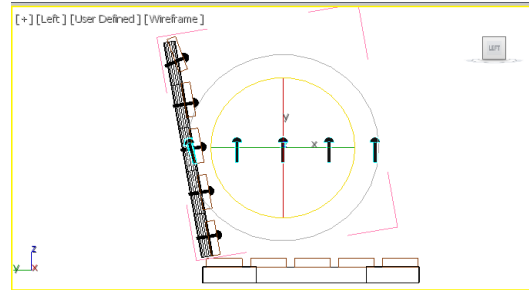

Figure 2-93 Rotating the right side seat rivets group in the Left viewport
8. Choose the **Select and Rotate** tool and select *right side seat rivets* in the Left viewport. Then, move the cursor over the Z-axis. Now, press the left mouse button and drag the cursor in the counterclockwise direction to rotate *right side seat rivets* until the angle of rotation in the Z spinner becomes **80**, refer to Figure 2-93.